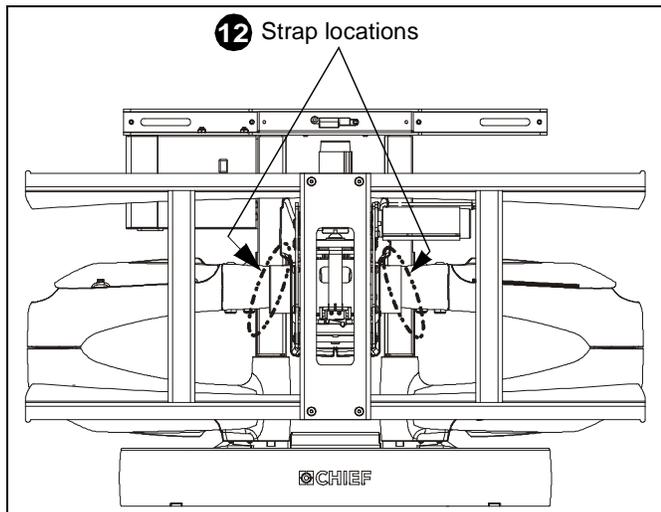

Figure 8
12. Remove two orange hook and loop straps holding PXR arms in place. (See Figure 8)